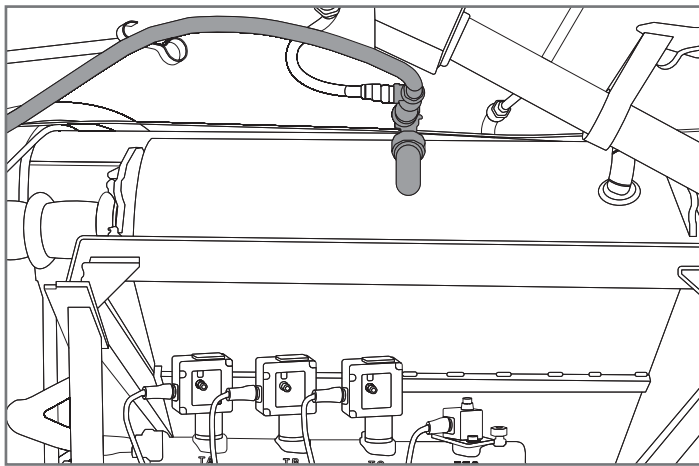

Figure 5. Coolant return hose (1/2 inch inner diameter) as installed at the locomotive's expansion tank.
3. Install fittings at the compressor or expansion tank to accept 1/2 inch hose. See Figure 5 and Figure 6.